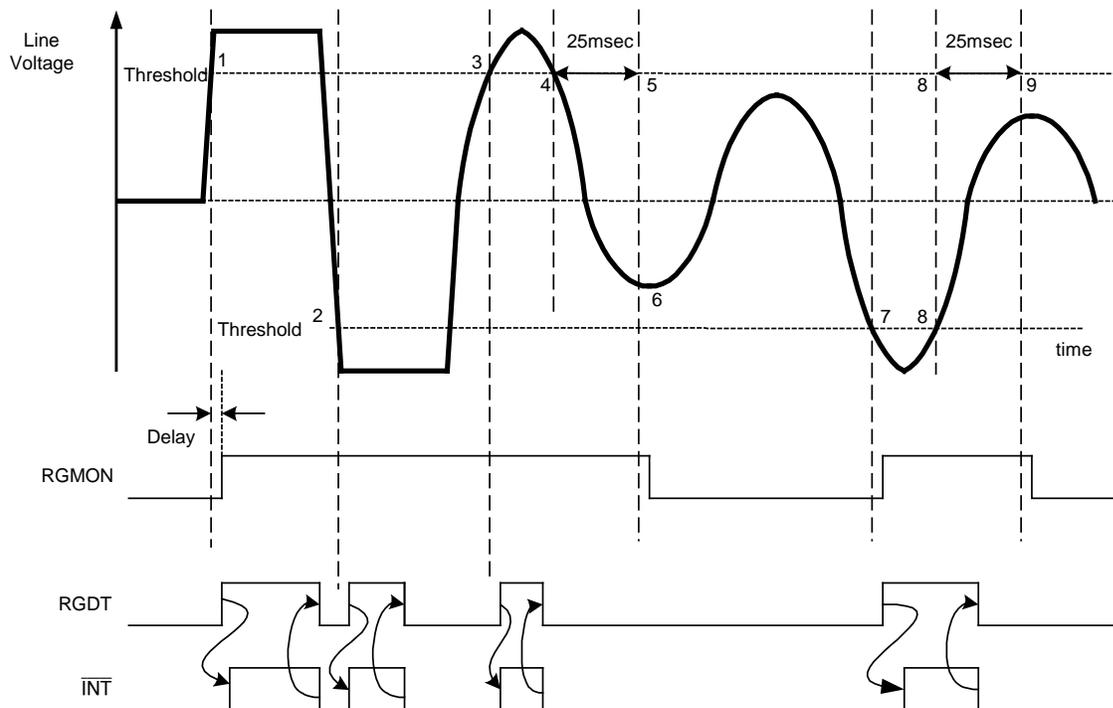

Figure 1: Ring Detection
When the 73M1922 is in on-hook mode, and when the ring detect interrupt is enabled (ENRGDT), a ring signal can be detected. Figure 1 shows the possible scenarios that can be encountered on the line.
The threshold voltage for detecting the ring signal is programmable in the 73M1x22 (RGTH[1:0]). When the line voltage exceeds the programmed threshold, the 73M1x22 asserts the hardware interrupt output pin ($\overline{\text{INT}}$) and asserts both RGDT and RGMON in the interrupt register, as illustrated by "1" and "3" in Figure 1. Note that the behavior is identical when the line voltage goes below the programmed threshold, as shown by "2" and "7" in Figure 1.
1. The line voltage is above (or below) the upper (lower) threshold level shown in Figure 1 and
2. A time period of 25 ms has not elapsed after the line voltage crossed back over the threshold level. The activity of the timer ruling RGMON is indicated by "4" and "5" (as well as "8" and "9") in Figure 1.
If the line voltage does not exceed the threshold within the 25 ms period, RGMON becomes de-asserted, as illustrated by “6” and “9” in Figure 1.